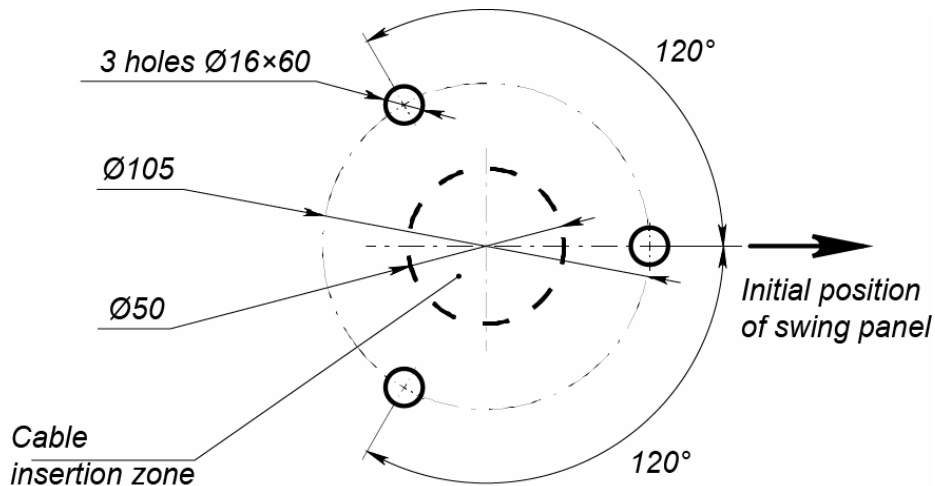

Figure 10. Mounting hole layout
2. Mark and prepare the mounting holes in the floor as per Fig. 10 for anchors (9) to install the gate post (If necessary, use the supplied template). Use Ø16 mm hard-alloy drill for hole preparation. Drilling depth is 60 mm.
4. If it is necessary to lay power cables (13) and control cables (14) under the floor, prepare an electrical conduit in the floor in the zone where cables are inserted into the gate post. The zone positioning is given in Fig. 10.
6. Lay power cable and route the cable inside electrical conduit towards cable insertion zone. Pull cables inside the fixed base (1) to the length appropriate for following installation on the control board (6).